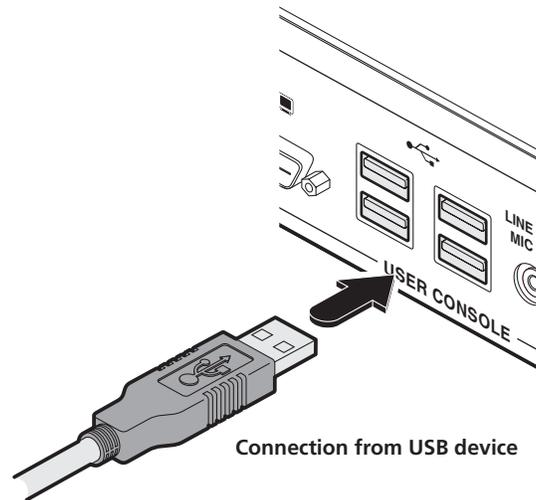

Figure 3-12. Connecting a USB device to the remote receiver unit.
- 1 Connect the lead from the device to any of the four USB sockets on the rear panel of the ServSwitch Agility unit. See Figure 3-12.